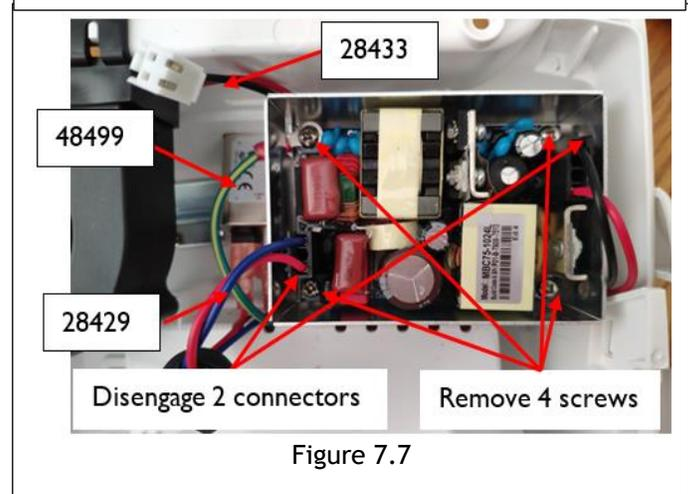
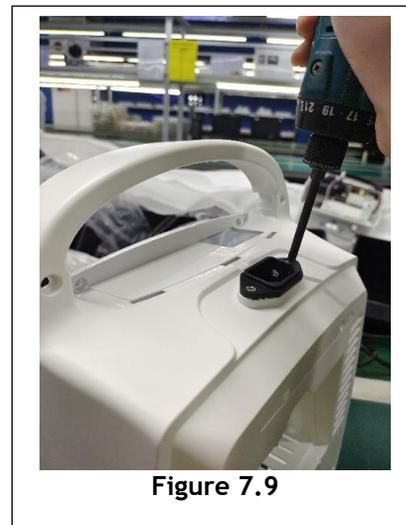

Figure 7.7
Figure 7.9
3. Using the M3 Cross head Screwdriver, remove the 4 screws securing the Power Supply to the system Bottom and 2 connectors **See Figure 7.7.**
7. To remove the 3 harness 28433, 48499, 28429 in **Figure 7.7**, first remove the main inlet. See **Figure 7.9** using M3 Torx screwdriver